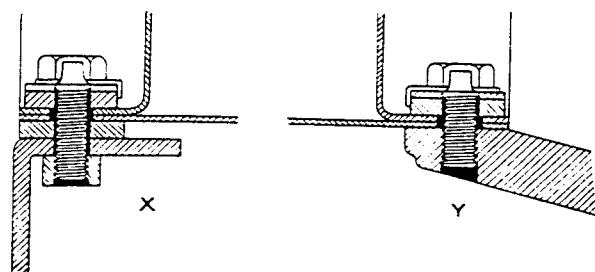

FIG. 2
**Method (ii) Fig. 2.** (Tractors serial No. 71,001 to 74,539 only).